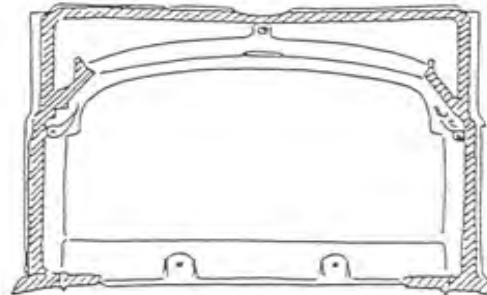

**Fig. C-2**
**STEP 8:** Cement all channels, flanges and mating surfaces indicated in Figure C-2. Do not allow any cement to contact the thermostat cable. Place the primary air tube cover plate in position on the stove bottom and secure with 3 each, Phillips flat head machine screws ( $\frac{1}{4}$ -20 x 2").